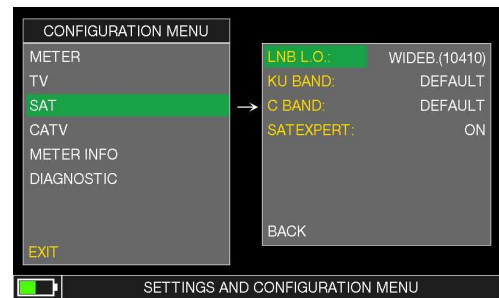

Fig.7 Wide band setup in the configuration menu.
- If the logger is run when connected to a Wide Band LNB, the LNB setting of the meter must be on Wide Band. Press the “Volume” key to access the configuration menu and select **SAT**, set the “LNB L.O.” to “WIDEB.”, (ref. fig. 7). Set the “SOTP&GO” logger entry to “TV&WbandLNB” (ref. fig.4). Then follow the instructions the meter will display.